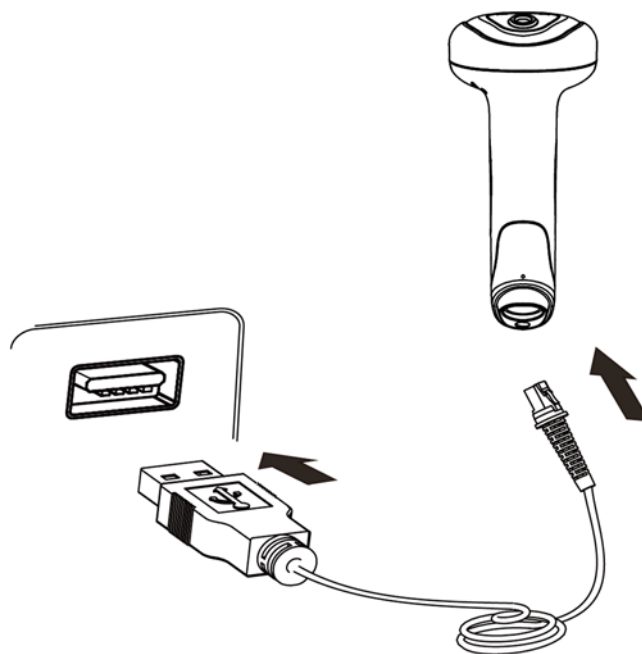

Fig. 1-3
1. Plug the RJ45 connector into the data port (see Fig.1-3) on the HR2150-HP scanner.